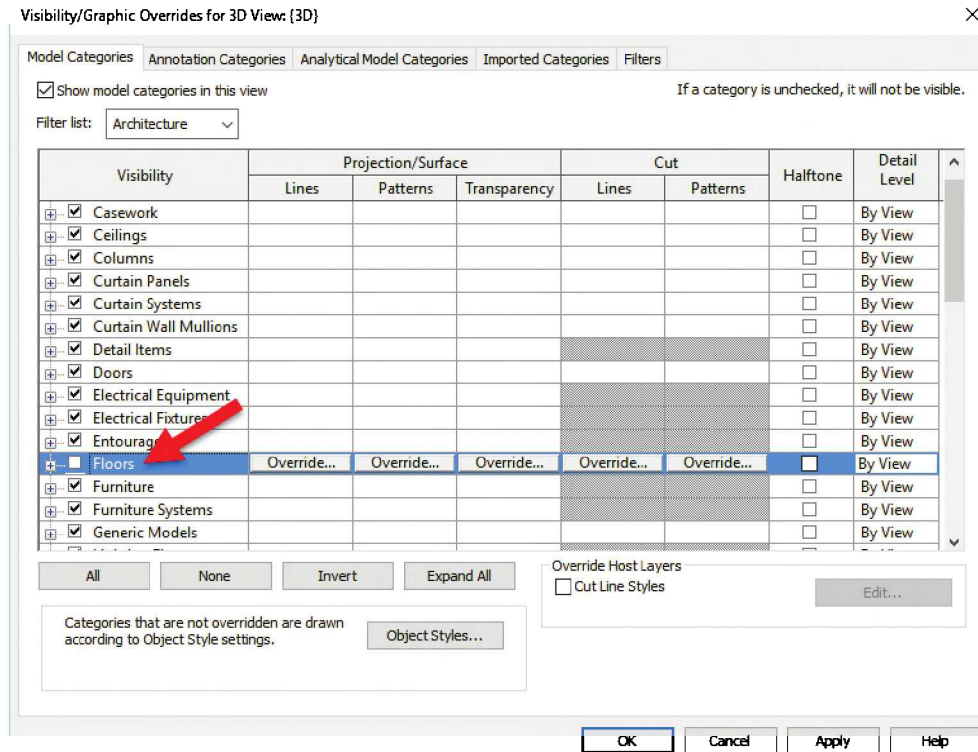

FIGURE 18-5.8 VISIBILITY control in the project
23. Uncheck *Furniture* on the *Model Categories* tab (Figure 18-5.8).